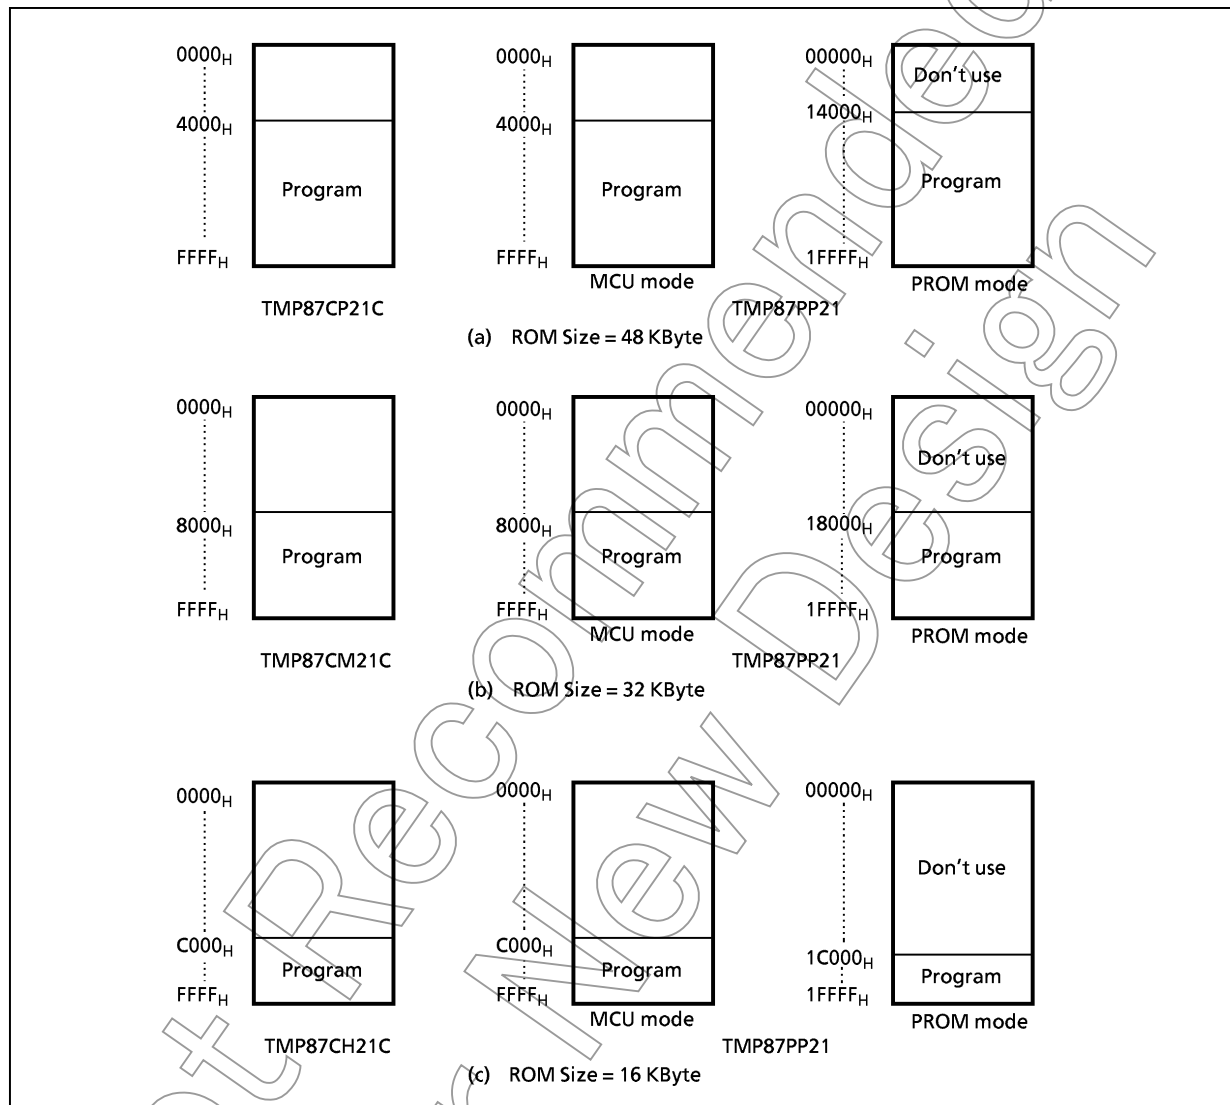

Figure 1-1. Program Storage Area
When the TMP87PP21 is used as a system evaluation of the TMP87CH21C/M21C/P21C, the data is written to the program storage area shown in Figure 1-1.
- (1) Adapters
- (2) Adapter setting
- (3) PROM programmer specifying
- In the TMP87PP21, EPROM is within the addresses 14000_H to 1FFFF_H. Data is required to be transferred (copied) to the addresses where it is possible to write. The program area in MCU mode and PROM mode is referred to "Program memory area" in Figure 1-1.
- (4) Writing